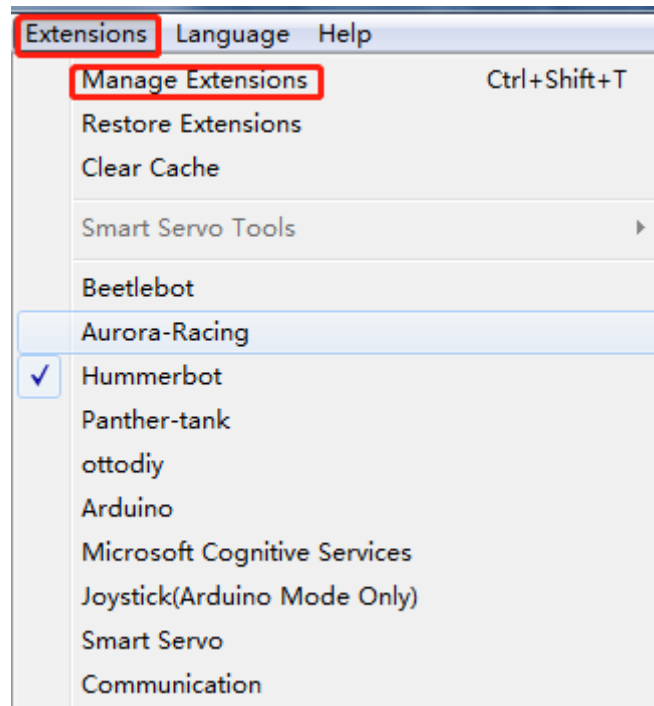

Figure 2-1
- 2) Open the mBlock software and click “Extension → Extension Manager”, as shown in Figure 2-1;